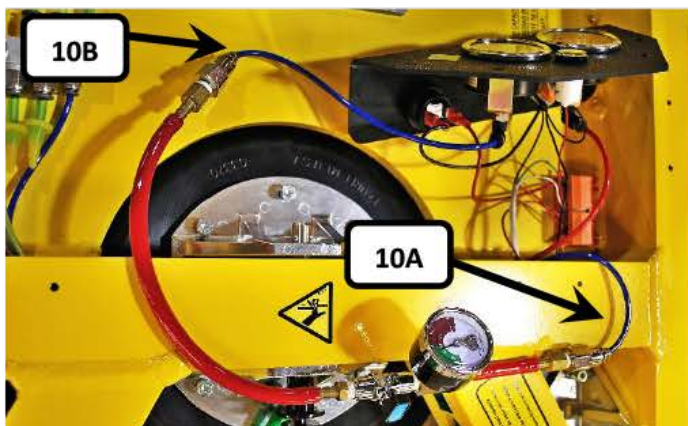

FIGURE 10
11) Carefully tilt the cover back as shown in **FIGURE 10**. Note, there are wires and hoses connected to this cover.
hose (10B), connect the other end of the ball valve to the lifter's vacuum gauge as shown in **FIGURE 10**.